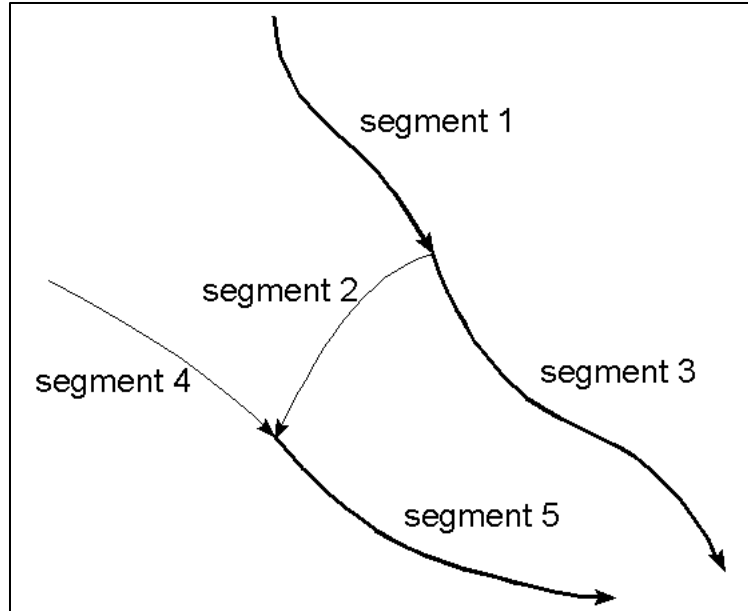

Figure 89. The stream system defined by the table in Figure 88
- **Structure:** Click this button to open the Stream Structure dialog box (Figure 88) that defines the structure of the stream system as shown in Figure 89. The table of dialog box indicates that segment 2 is diverted from segment 1, segment 1 is a tributary segment of segment 3, and segments 2 and 4 are tributary segments of segment 5.